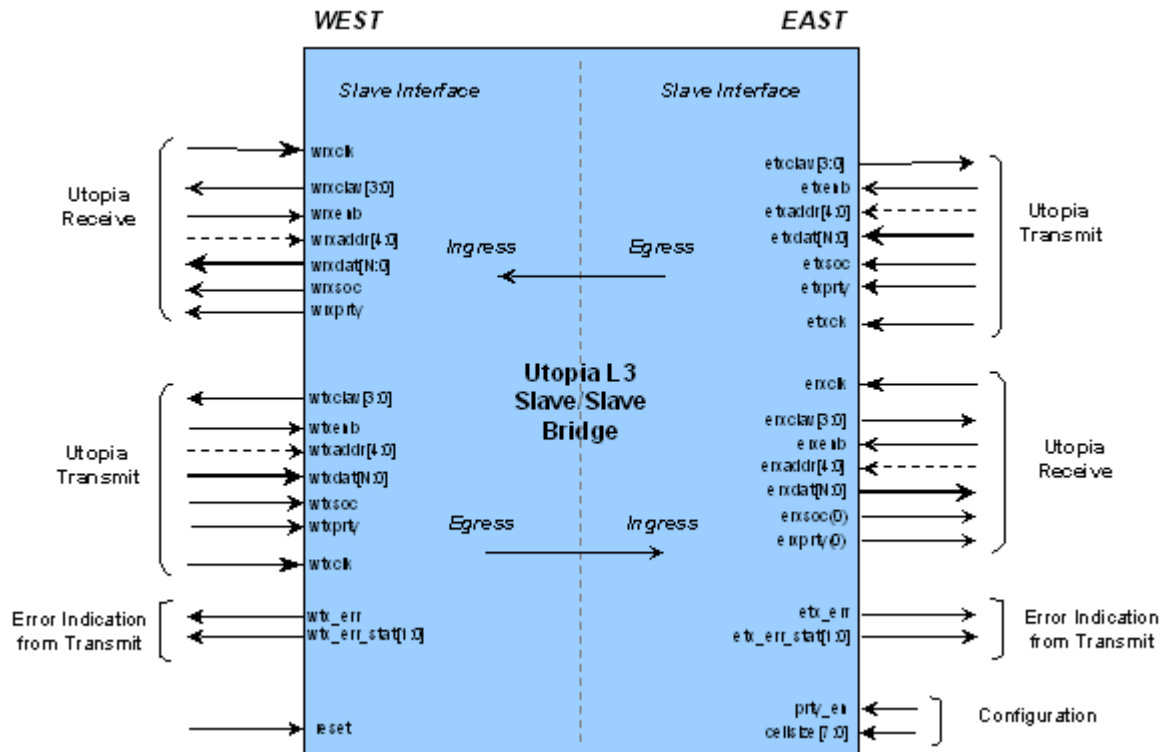

Figure 4: Utopia Level 3 Slave/Slave Bridge Top Entity
**NOTE:** `eg_err` is routed to the corresponding `wtx_err` and `etx_err` respectively (see Figure 4).